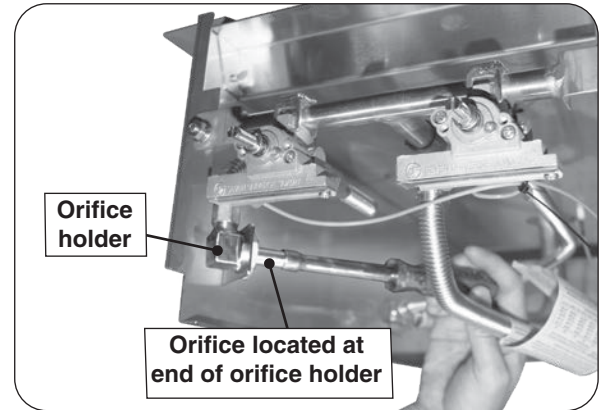

Fig. 29-1 Orifice location
4. Using a $\frac{3}{8}$ " socket nut driver, remove the orifice from the orifice holder (see Fig. 29-1) and check the number stamped on the orifice face.